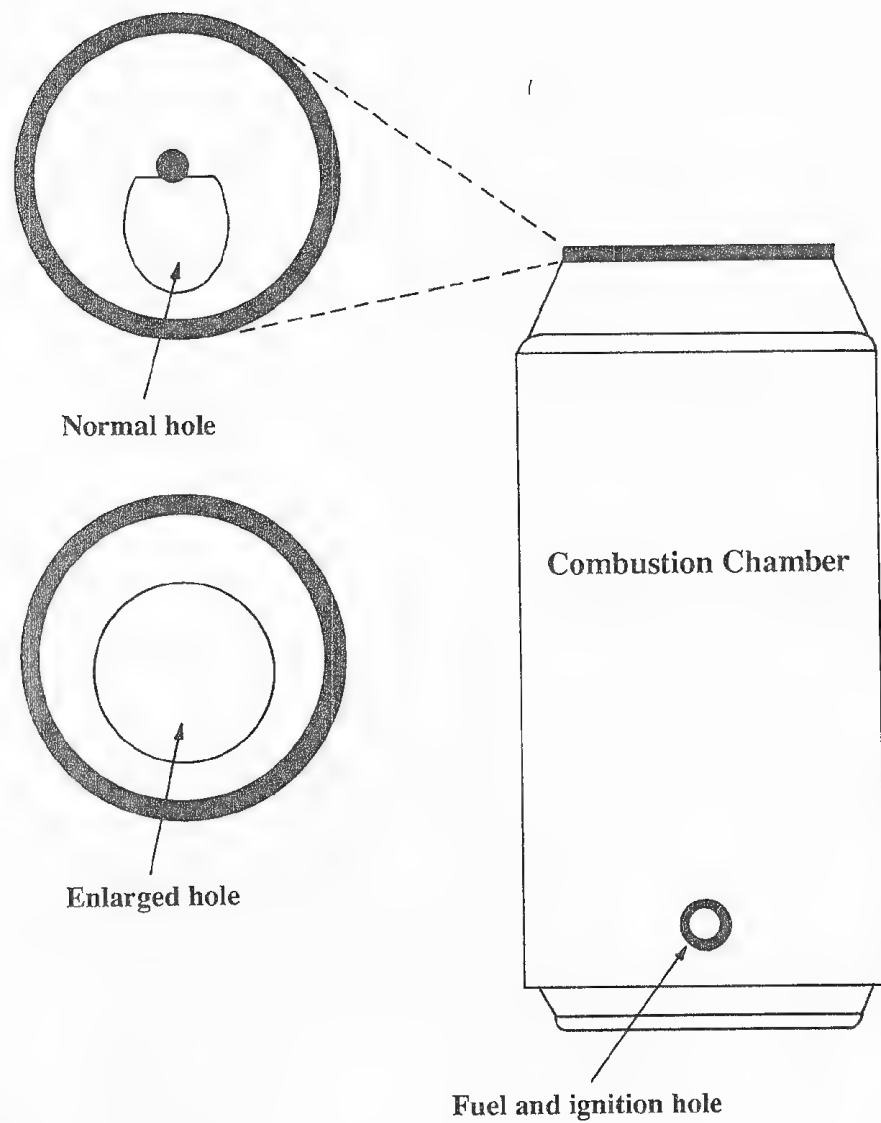

Figure 5
6. Take the remaining can and enlarge the drinking hole in its top with metal shears to about twice its size. Drill a $\frac{1}{8}$ " hole about $\frac{1}{2}$ " from the bottom. This will be where the fuel will be put in and ignited. This fourth can is your combustion chamber. (See Figure 5.)